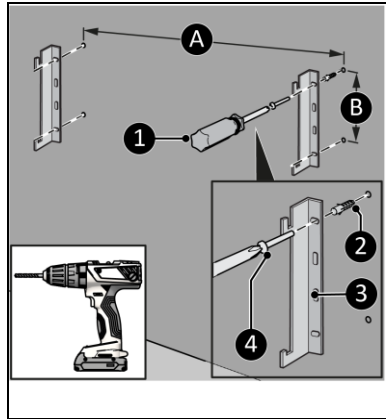

Figure 10
4. Drill four holes for the brackets, the two lower holes at least 125 mm above the floor. The distance between the vertical holes (Figure 10, pos. B) is 105 mm. The distance between the horizontal holes is approximately (Figure 10, pos. A and B)*:
5. Place wall plugs (Figure 10, pos. 2).
6. Screw and tighten a left and a right bracket (Figure 10, pos. 3) to the wall with a large screw (Figure 10, pos. 4) using a Phillips screwdriver (Figure 10, pos. 1).